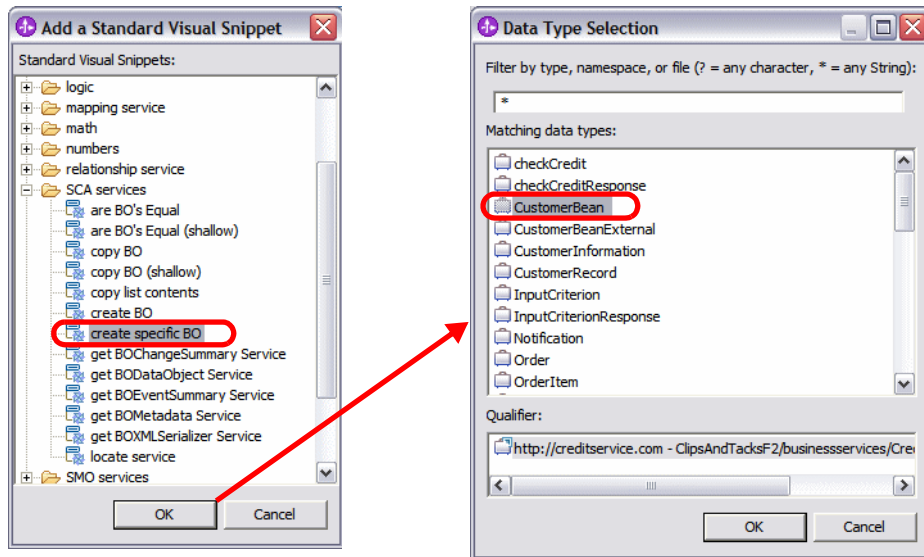

Figure 16-18 Visual Snippet: Create business object
- ▶ In the pop-up window, select *SCA services* → *create specific BO*. Next select the CustomerBean and click *OK* (Figure 16-18).